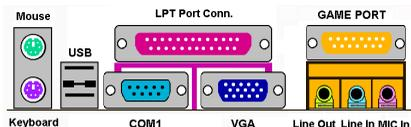

**Figure 2-8. How to connect an ATA/66 cable to the Motherboard**
- Attach the **BLACK** connector to the mating plug on the master hard drive. Attach the **GREY** connector to the mating plug on the slave drive (secondary hard drive, CD-ROM, or tape drive). Please refer figure 2-8.